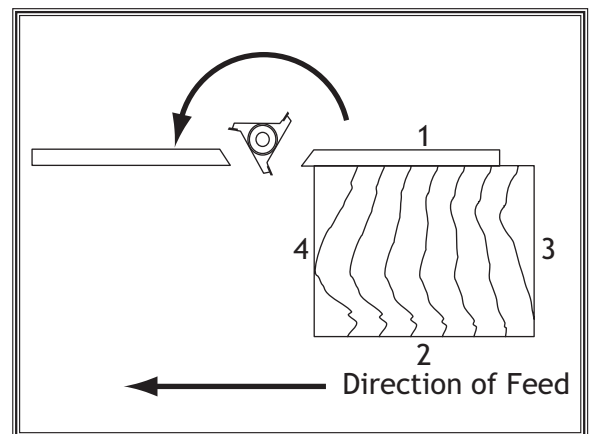

Figure 42. Sequence for cutting the full perimeter of a workpiece.
- Make end grain cuts before cuts that are with the grain (see **Figure 42**). This will help prevent end grain tear out.